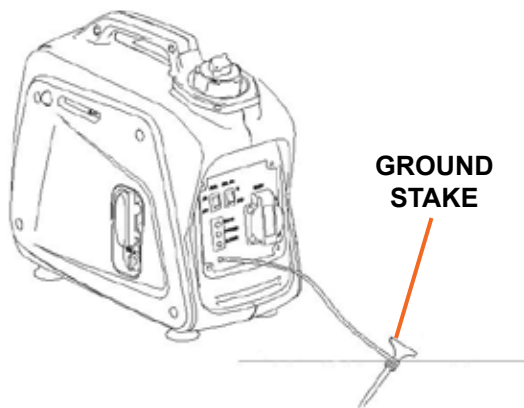

Figure 1
- Attach a grounding wire and stake before starting the generator (see Figure 1).